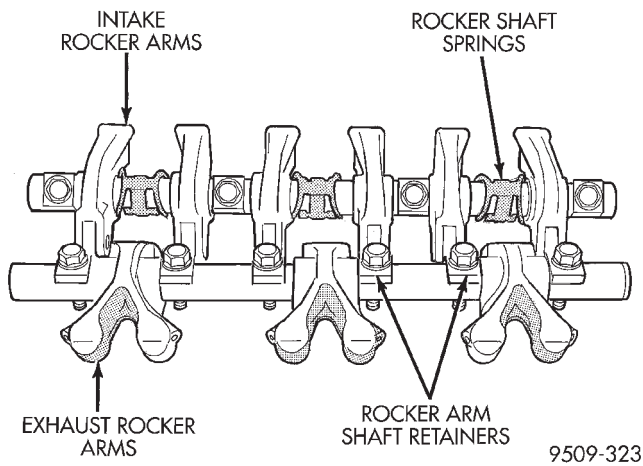

Fig. 101 Rocker Arm Shafts
(1) Identify the rocker arms and retainers for reassembly. Disassemble the rocker arm assemblies by removing the attaching bolts and spring clips from the shaft (Fig. 101).
Lubricate the rocker arms. Install onto shafts in their original position (Fig. 101).